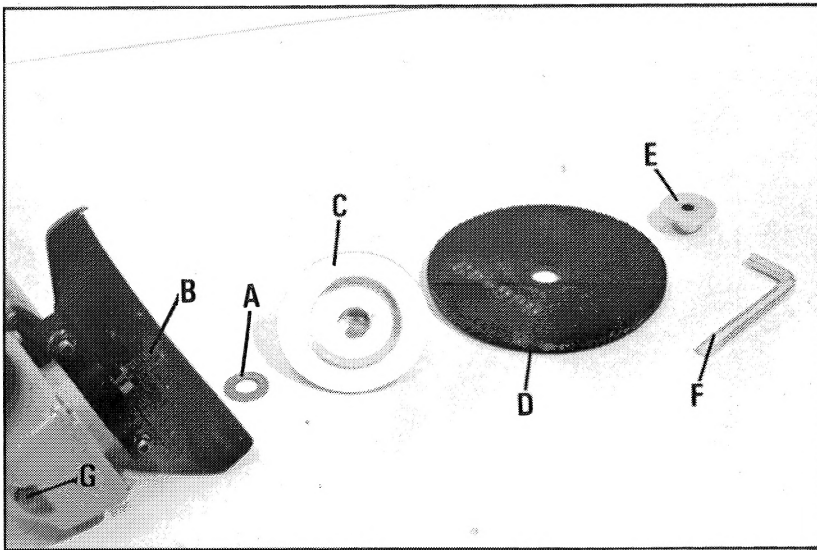

Fig. 7
4. Place washer (A) Fig. 7, on spindle (B).
5. Thread wheel adapter (C) to shaft shoulder with flange face outward. CAUTION - For ease of wheel adapter removal, hand tighten only.